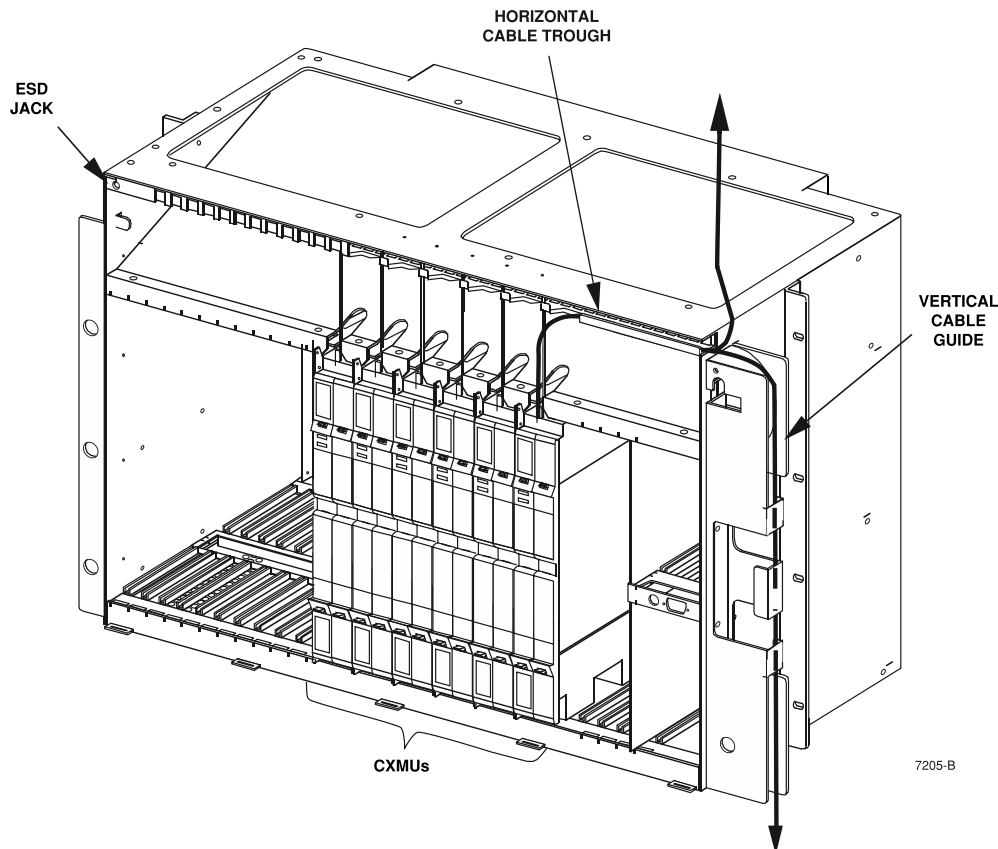

Figure 4-14. CXMU and Coaxial 735A Feeder Cable Installation
3. Partially insert each CXMU into the HDT mounting shelf as shown in Figure 4-14.